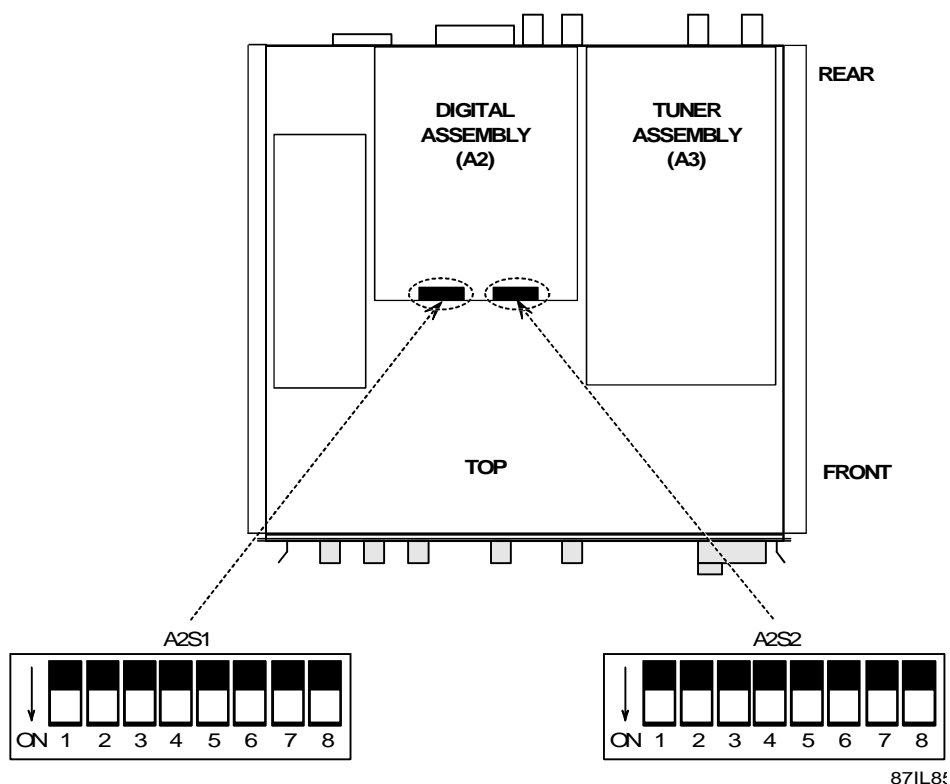

Figure E-3. Location of Switches A2S1 and A2S2 in the WJ-8711A
- d. Locate switches S1 and S2 on the A2 assembly (refer to **Figure E-3**).